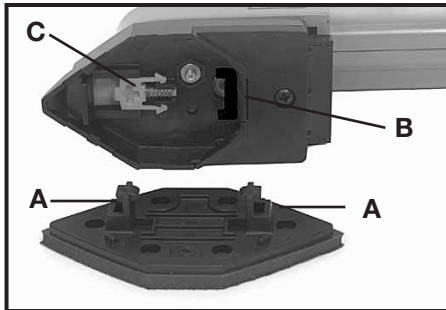

Fig. 7
All of the accessory pads and profile mounting plates are attached to the tool in the same way. Each pad or mounting plate has two posts (A) Fig. 7 used to attach it to the Profile Sander.
One pad post fits into a pocket (B) Fig. 7 in the tool, and the other post is locked into place by a tab (C) Fig. 7. The mounting post area (of all the pads and mounting plates) is symmetrical. The pad (or mounting plate) can be attached to the Profile Sander with either end forward, which allows the use of both pointed ends of each sheet of pad abrasive, and permits the profile holders to be mounted in the best position for each particular application.
2. Position one of the pad (or mounting plate) posts (A) Fig. 7 into the pocket (B) Fig. 7 of the Profile Sander (Fig. 8).